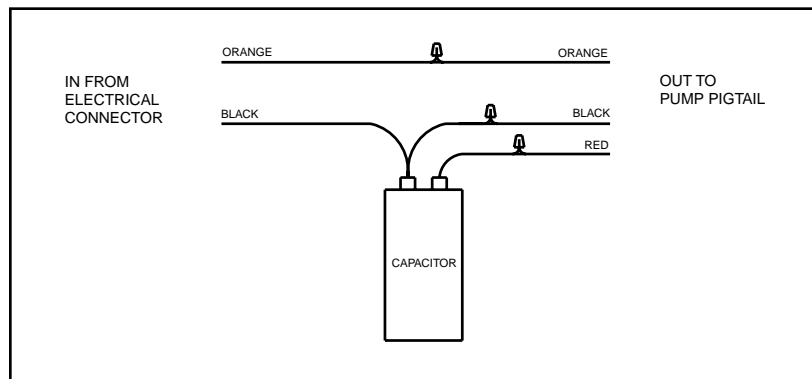

Figure 4.8 Wiring Schematic
- 15: Using supplied wire nuts, attach like colored pump pigtail wires to wires. See figure 4.8 to verify connections.